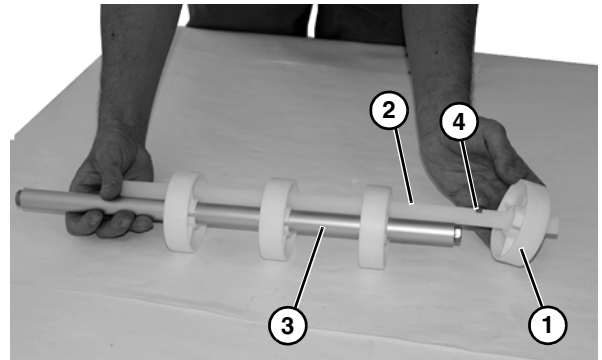

Figure 57
4. Remove rollers (Figure 57, item 1) and alignment bar (Figure 57, item 2) from shaft (Figure 57, item 3). Inspect and replace if worn.
5. Reinstall rollers and alignment bar, with each roller lining up with cutout area (Figure 57, item 4) on alignment bar.